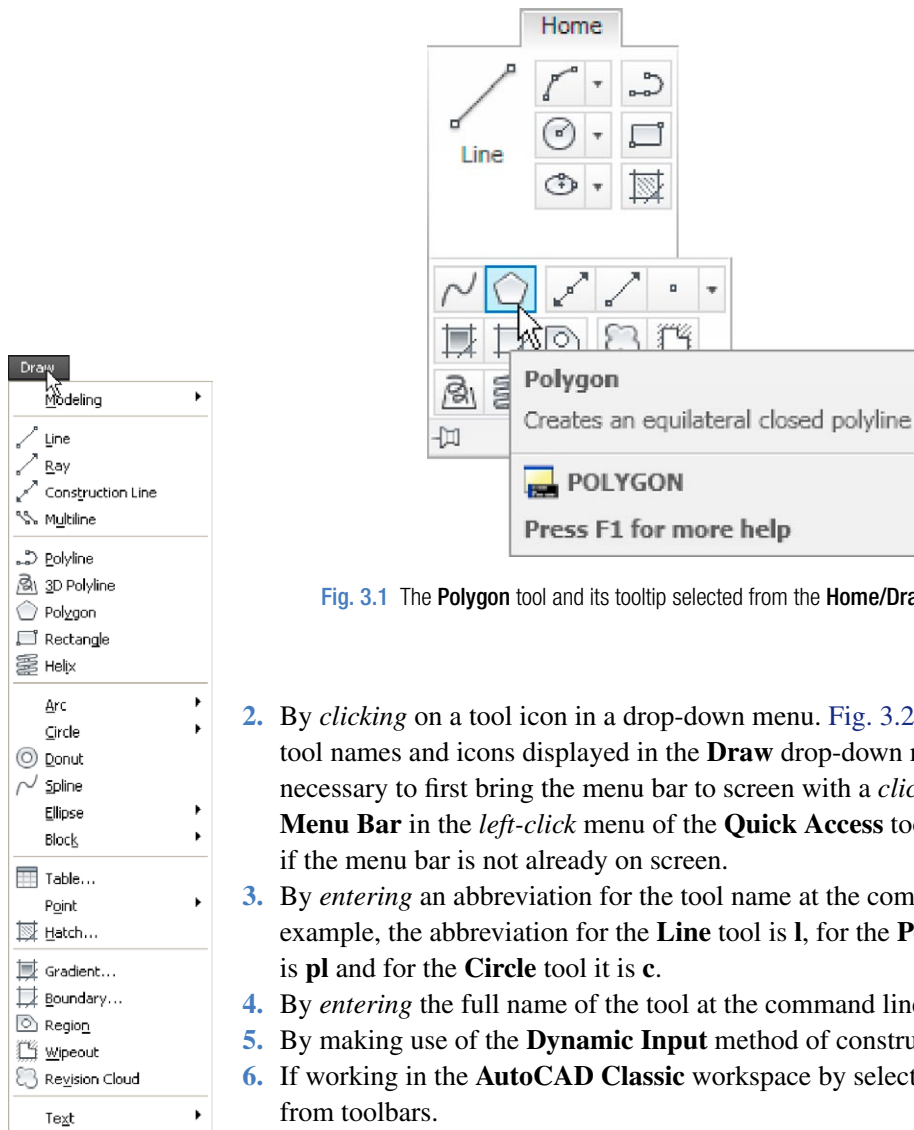

Fig. 3.1 The **Polygon** tool and its tooltip selected from the **Home/Draw** panel
1. By *clicking* on the tool's icon in the appropriate panel. Fig. 3.1 shows the **Polygon** tool called from the **Home/Draw** panel.